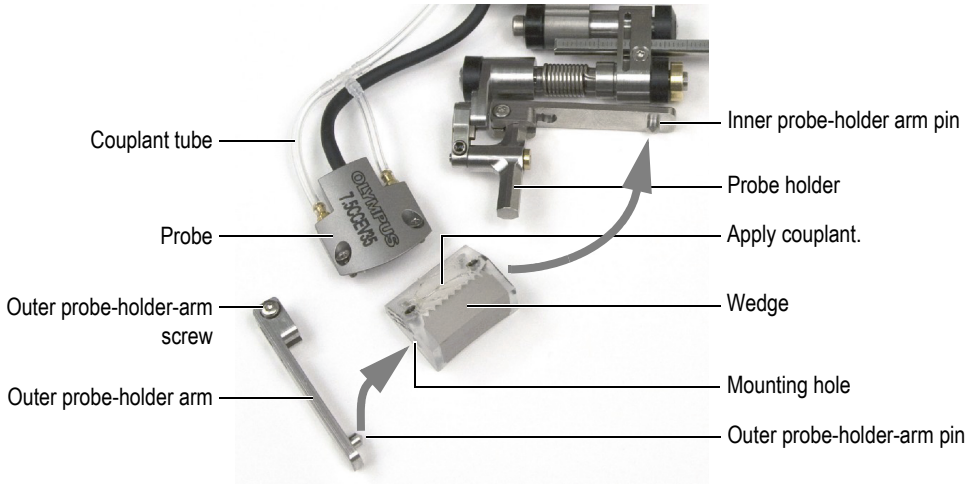

Figure 2-4 Installing the probe and the wedge on the scanner
5. Insert the inner probe-holder arm pin into the mounting hole in the wedge (see Figure 2-4 on page 34).